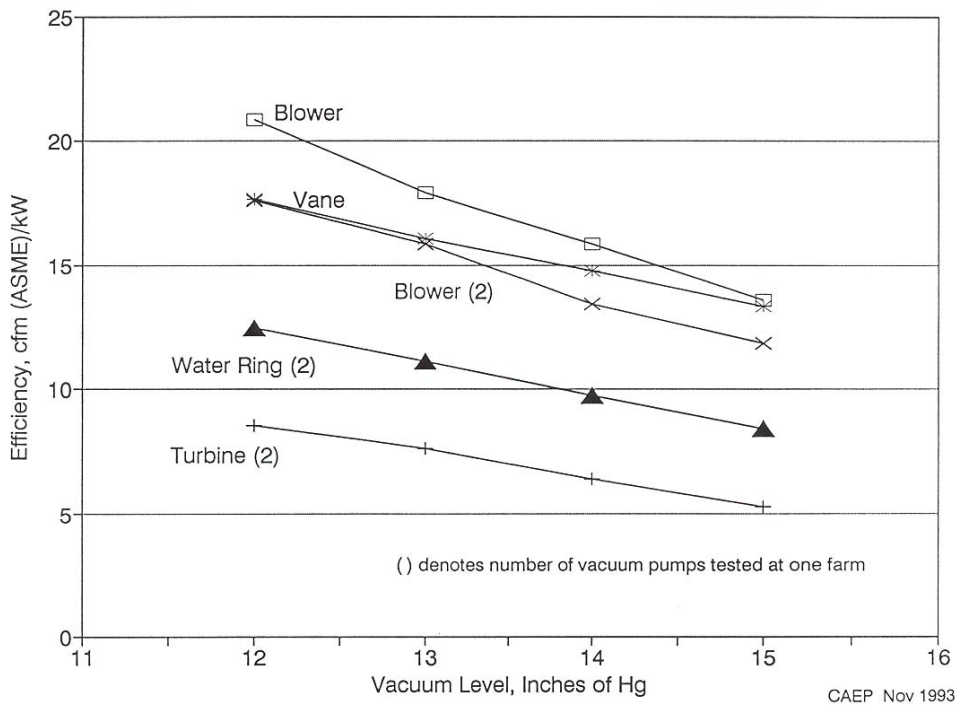

Figure 1-5. A Review of Vacuum Pump Technology (David C. Ludington, Stanley A. Weeks)
In 1993 tests were conducted on various types of vacuum pumps as selected dairy farms in New York State. The tests were conducted to measure the efficiency of the vacuum pumps in terms of air delivery [cubic feet per minute (ASME)] per kiloWatt of input power while operated at various vacuum level under farm conditions. The results of these test are presented in Figure 1-5.
- has the highest relative efficiency (see Figure 1-5),